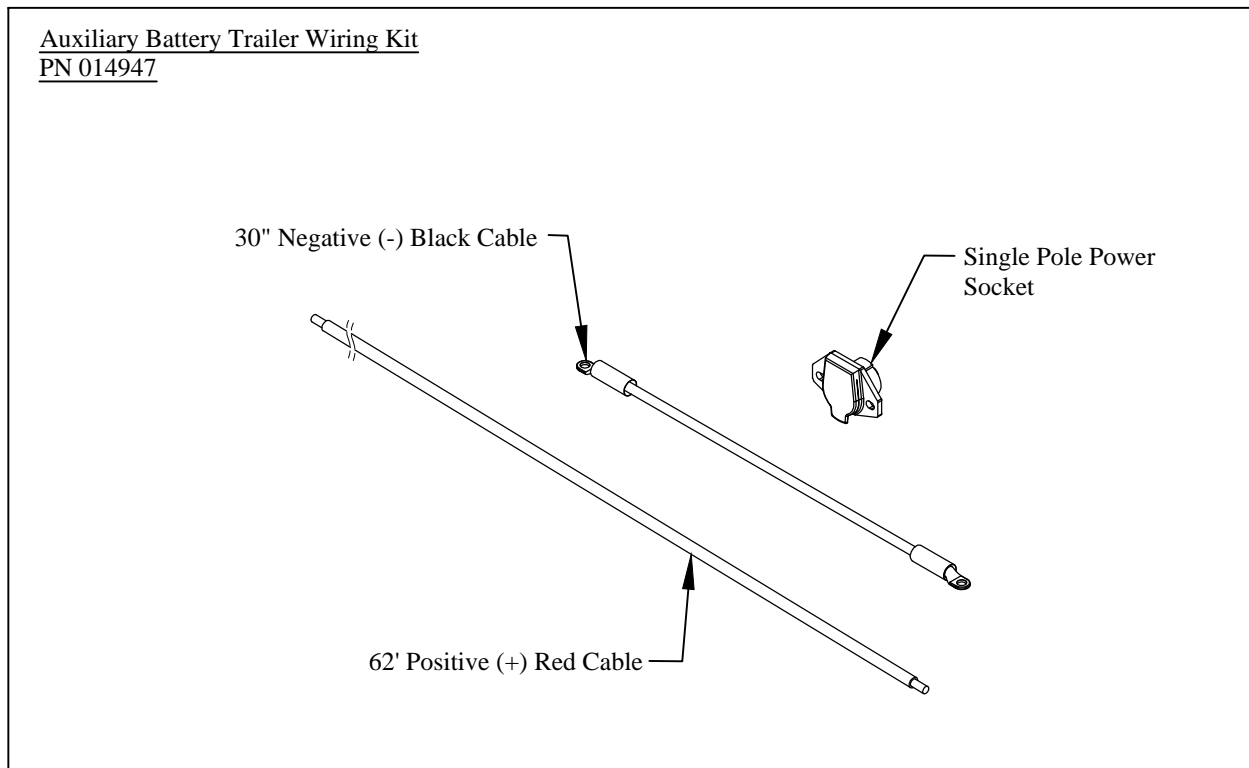

Figure 6: Part identification.
2. **Verify** the parts of the **Auxiliary Battery Trailer Wiring Kit** (Figure 6).